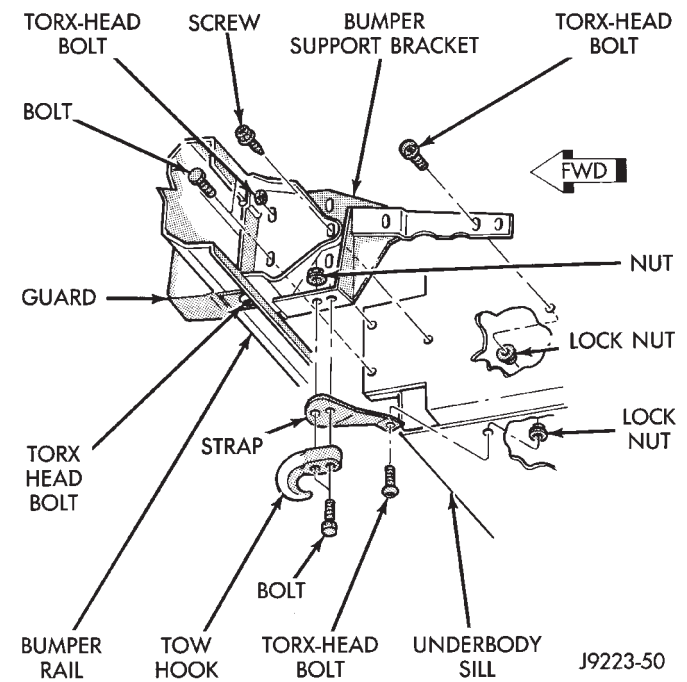

Fig. 4 Tow Hook & Strap—XJ Vehicles
(4) Remove the locknuts and Torx-head bolts that attach the tow hook straps (Fig. 4) to the underbody sillmember.